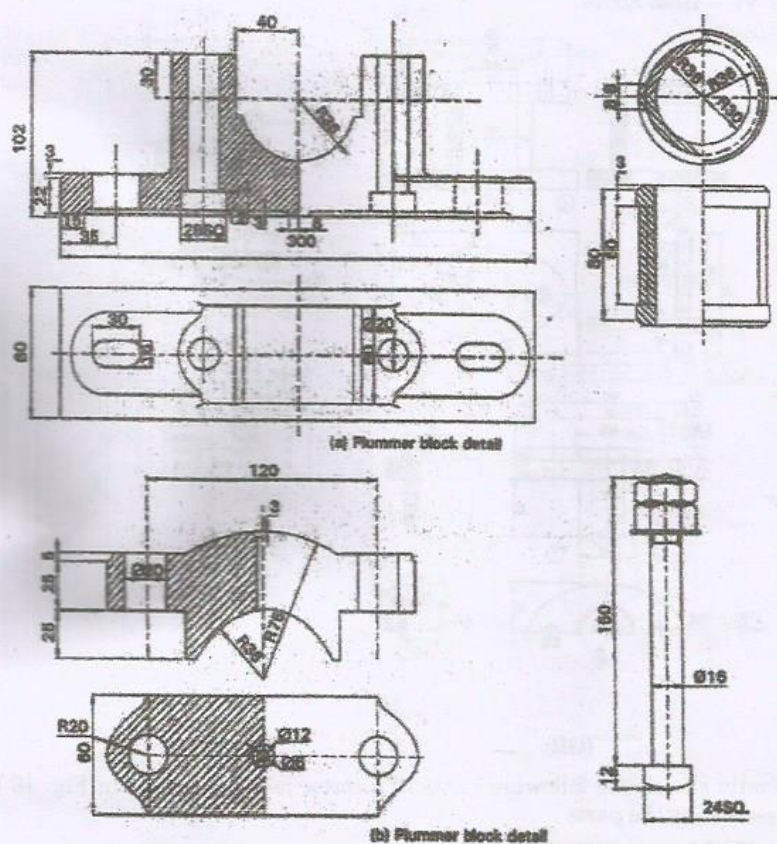

Fig. 15 (a)
15. a) Assemble the parts in Fig. 15 (a) and draw the following views of a Plummer block below : (13)